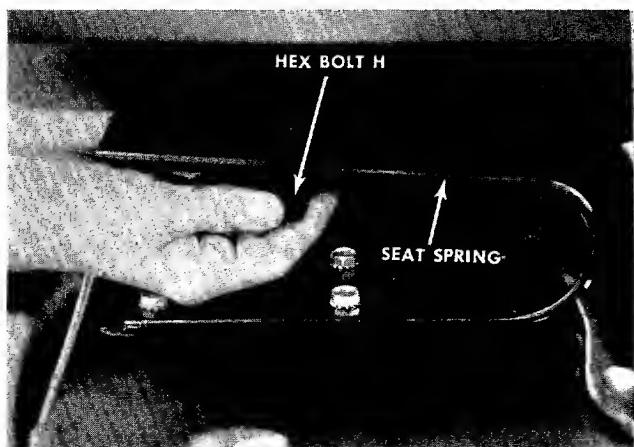

FIGURE 5. SEAT ASSEMBLY
- b. **Hex Head Bolt Mounted.** Assemble the seat to the seat spring with hex bolt H as shown in figure 5.
CONTROLS See figure 5.